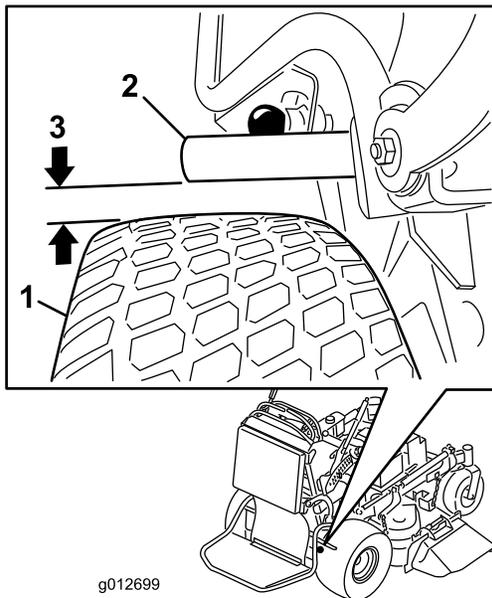

Figure 61
4. With the brake released, measure the distance between the brake bar and the tire. The distance needs be between 3/16 and 5/16 inches (5 and 8 mm) (Figure 61). Refer to Adjusting the Parking Brake when adjustment is needed.
5. Adjust the yoke. The distance between the brake bar and the tire needs be between 3/16 and 5/16 inches (5 and 8 mm). To tighten the brake, rotate the yoke up. To loosen the brake, rotate the yoke down (Figure 61).